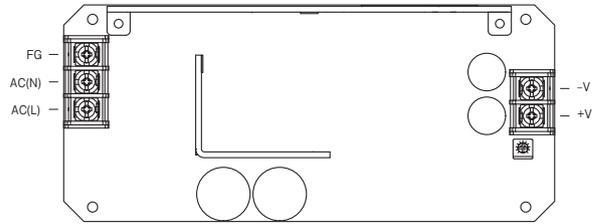
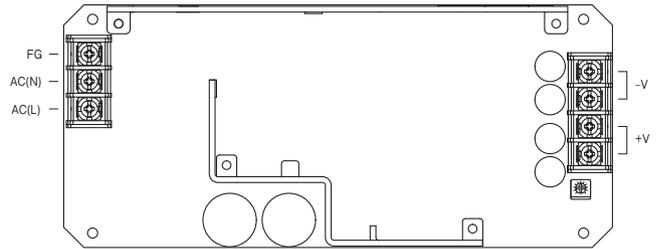

Fig. 7.10 Example of option -T5 (LHP150F)
Fig. 7.11 Example of option -T5 (LHP300F)
- Refer to fig.7.10, fig.7.11 for terminal arrangement.